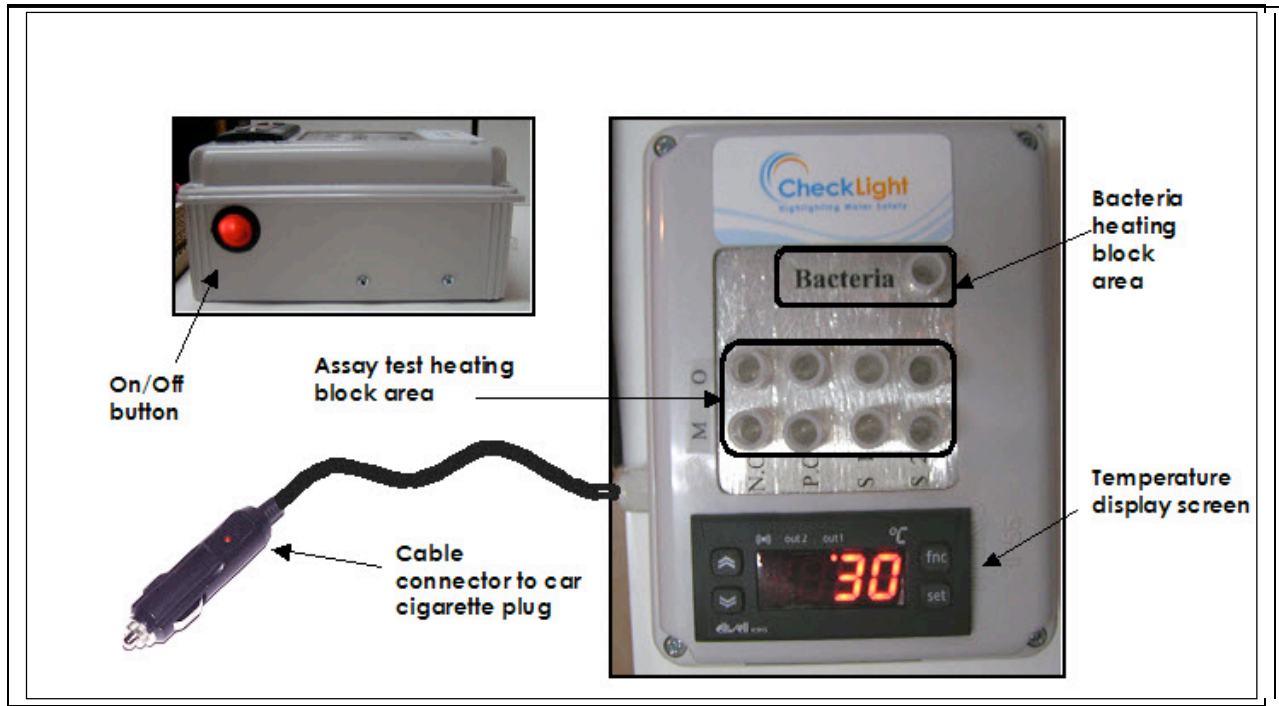

Figure 1: Incubator Components
3. Using the On/Off switch on the side of the incubator (Figure 1) turn the incubator on. To save time we recommend that you turn the incubator on while traveling to the test site.